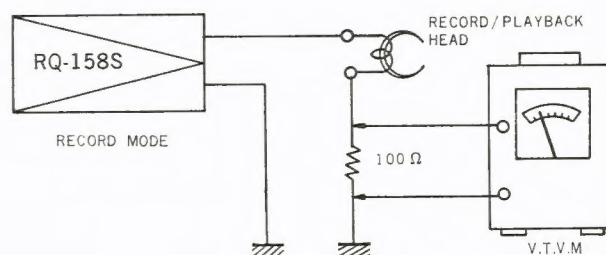

Fig. 4
Measuring Circuit: Refer to Fig. 4
1. As shown in Fig. 4, insert  $100\ \Omega$  resistor to ground lead wire of Record Head and connect VTVM across resistor.